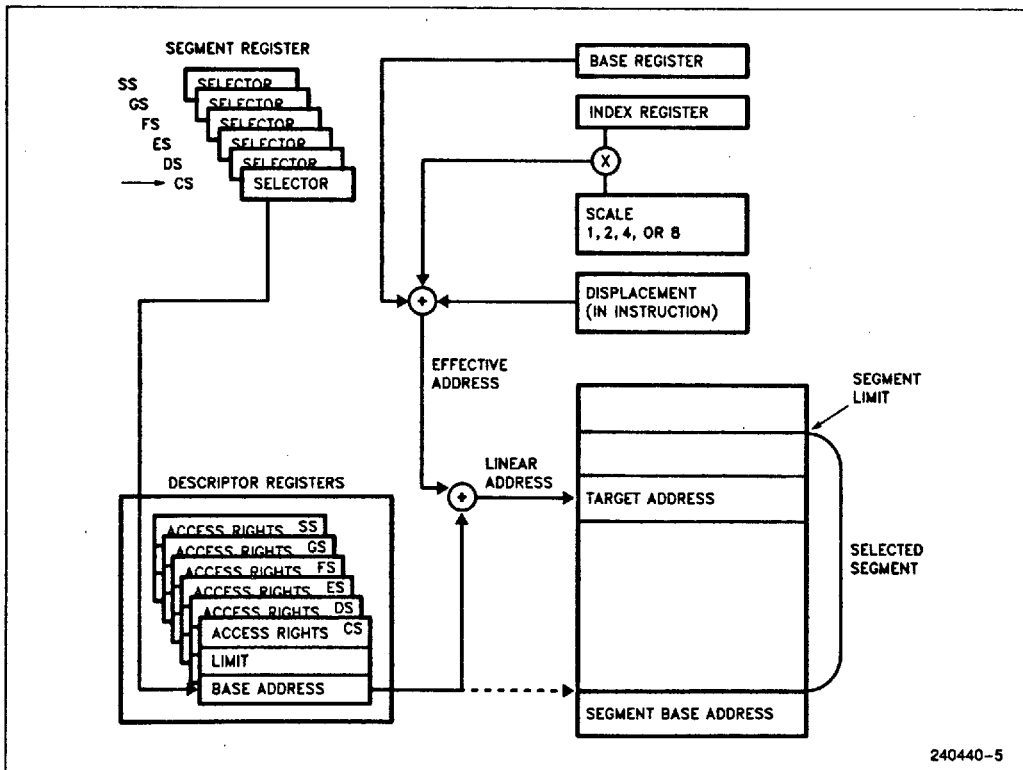

Figure 2.17. Addressing Mode Calculations
As shown in Figure 2.17, the effective address (EA) of an operand is calculated according to the following formula.